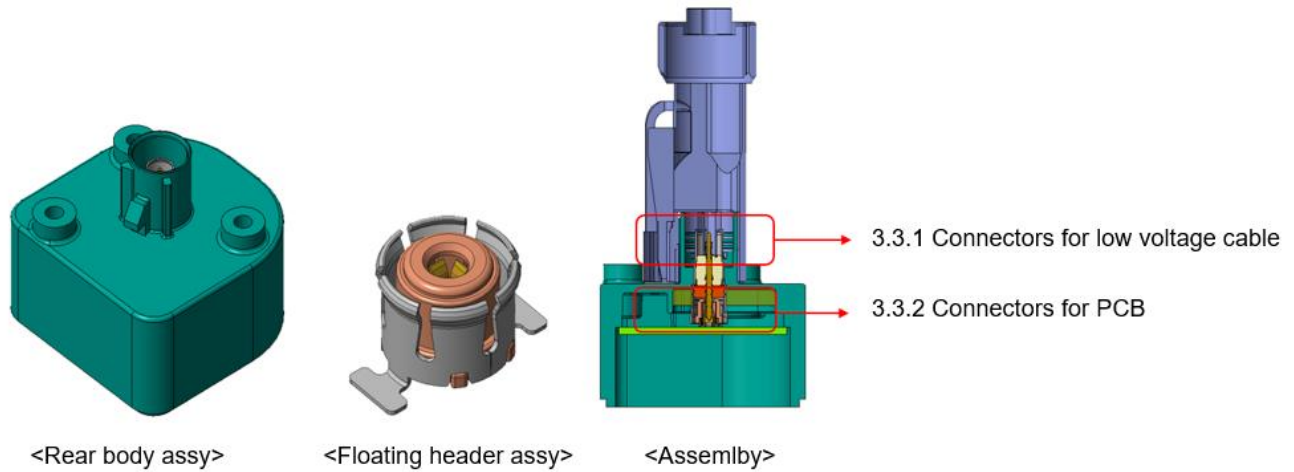

Figure 1.
When tests are performed on the subject product line, procedures specified in Figure 1 shall be used. All inspections shall be performed using the applicable inspection plan and product drawing.
3.3.1 Connectors for low voltage cable (Figure 1.)
3.3.2 Connectors for PCB (Figure 1.)